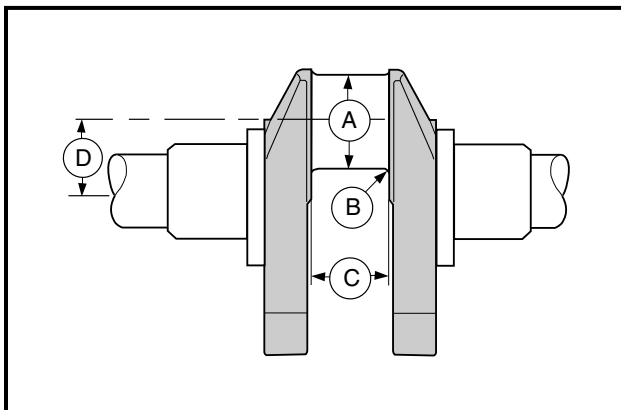

**Figure 18-78 Check Crankshaft Alignment**
- 8.2. Turn crankshaft (1) slowly and measure total indicated run-out at the location shown (**Figure 18-78, Page 18-37**).